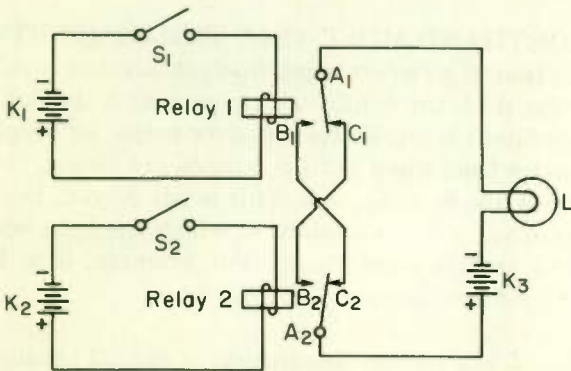

Fig. 33 A logic circuit that uses double-throw relays.
1. (a) Does lamp L , Fig. 33, burn when switch S_1 is open and S_2 is closed?